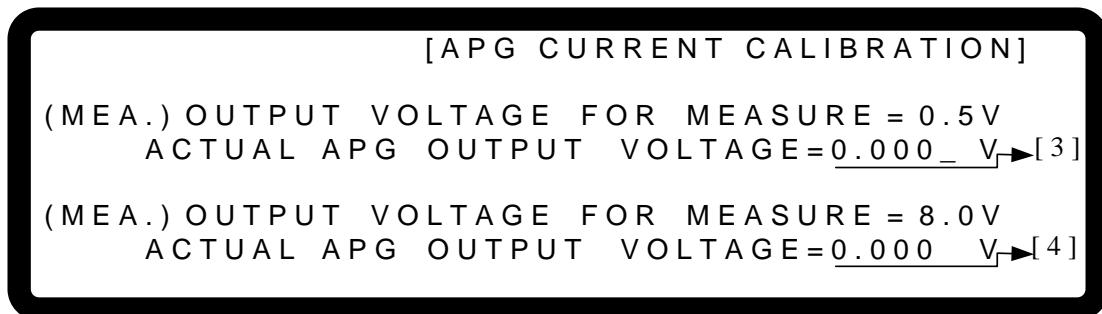

Figure 3-133
6. Press “**↓→**” again and the system will set the output voltage of Pin 19 on the rear panel to 0.5V and the cursor stops at position [3] as shown in Figure 3-133. Input the voltage read by DVM2 to position [3] and press “**ENTER**” to confirm.
7. Press "" again and the system will set the output voltage of Pin 19 on the rear panel to 8.0V and the cursor stops at position [4] as shown in Figure 3-133. Input the voltage read by DVM2 to position [4] and press "" to confirm.